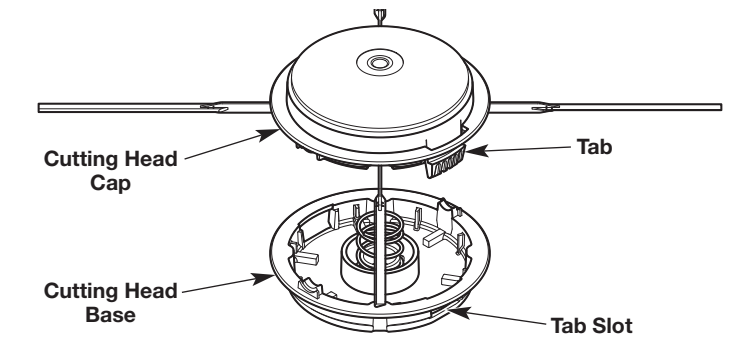

Fig. 25
Firmly press a tab on the cutting head cap (Fig. 25). Use your thumb. If necessary, use a flat-head screwdriver:
- c. While holding the screwdriver in place, gently twist the screwdriver to unlock the tab from the tab slot (Fig. 25).
7. Align the tabs on the cutting head cap with the tab slots on the cutting head base (Fig. 25). Push the cutting head cap onto the cutting head base until both tabs snap into place.